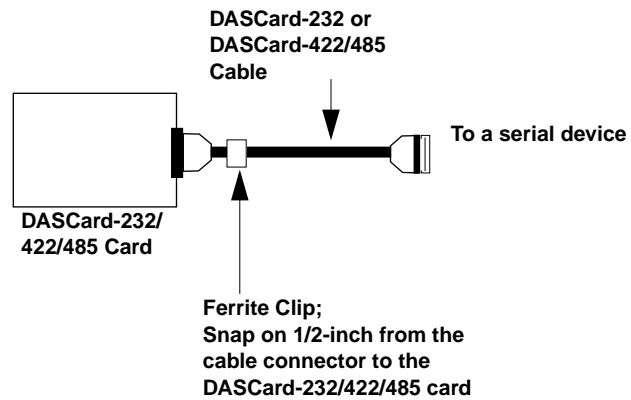

Figure 3. Snapping on the Ferrite Clip
1. Position the supplied ferrite clip about 1/2-inch from the end of the cable connector attached to the DASCard-232/422/485 card, as shown in Figure 3.